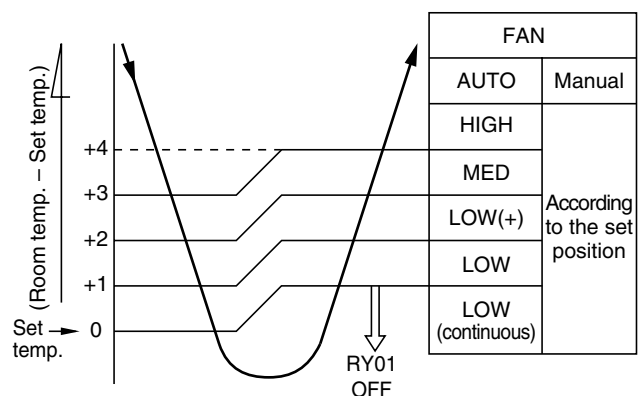

Fig. 7-2-2
- 1) When the FAN is set to AUTO, the indoor fan motor operates as shown in Fig. 7-2-2.